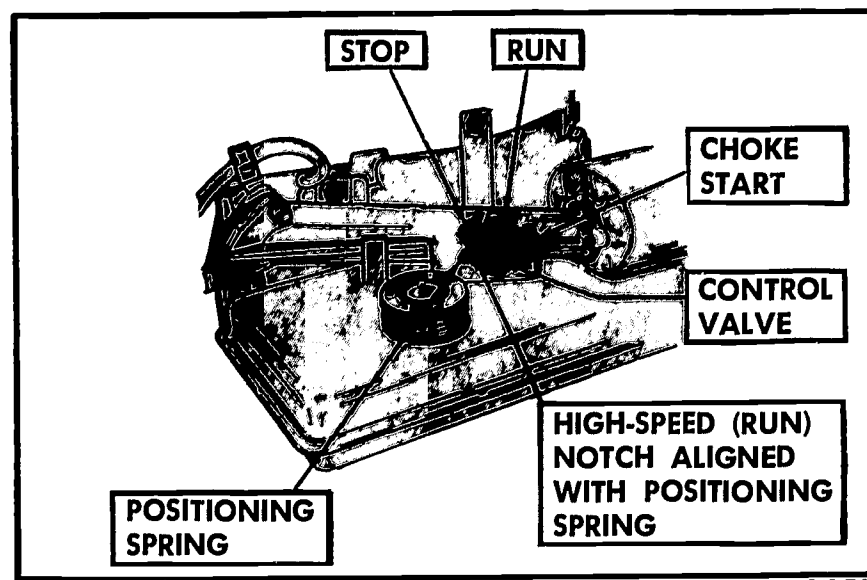

FIGURE 157. Aligning the single control type carburetor valve for the correct positions of choke, run and stop.
13. *Adjust throttle setting (single-control carburetor) (Figure 157).*